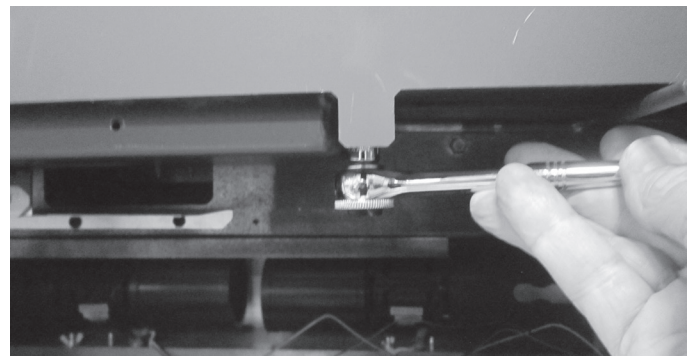

**Figure 4.18 Removal of Timer Assembly Screws**
5. While holding on to the timer assembly, remove the two (2) screws and slide the linkage arm off of the rod and pull the assembly out of the front. See Figure 4.18.